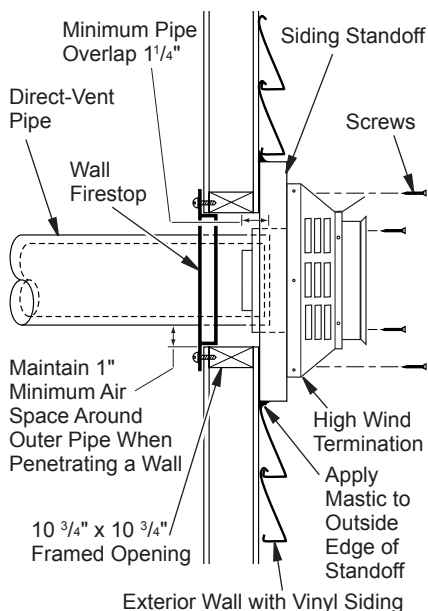

Figure 13 - Typical Horizontal Termination Cap Mounting with Additional Siding Standoff Installed
8. Carefully move fireplace, with vent assembly attached, toward wall and insert vent pipe into horizontal termination. The pipe overlap should be a minimum of 1 1/4" (see Figure 13, page 12).
9. **Combustible Exterior Wall Only:** Slide wall firestop against interior wall surface and attach with screws provided. See Figure 13, page 12, for horizontal termination details.